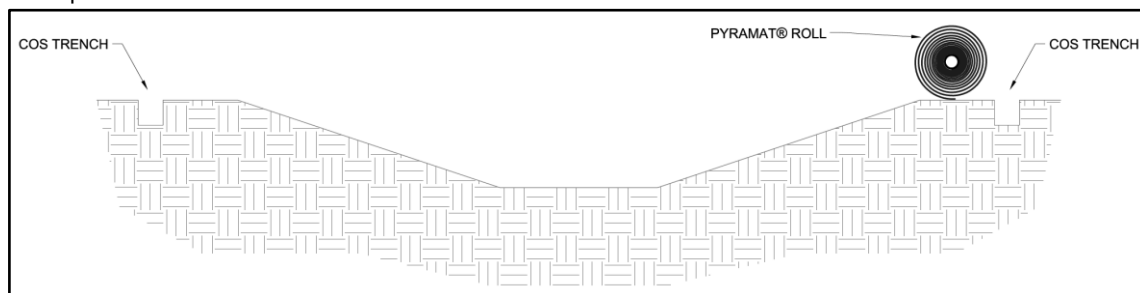
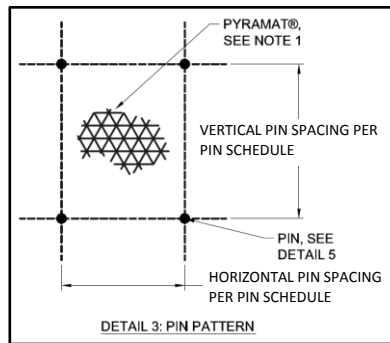
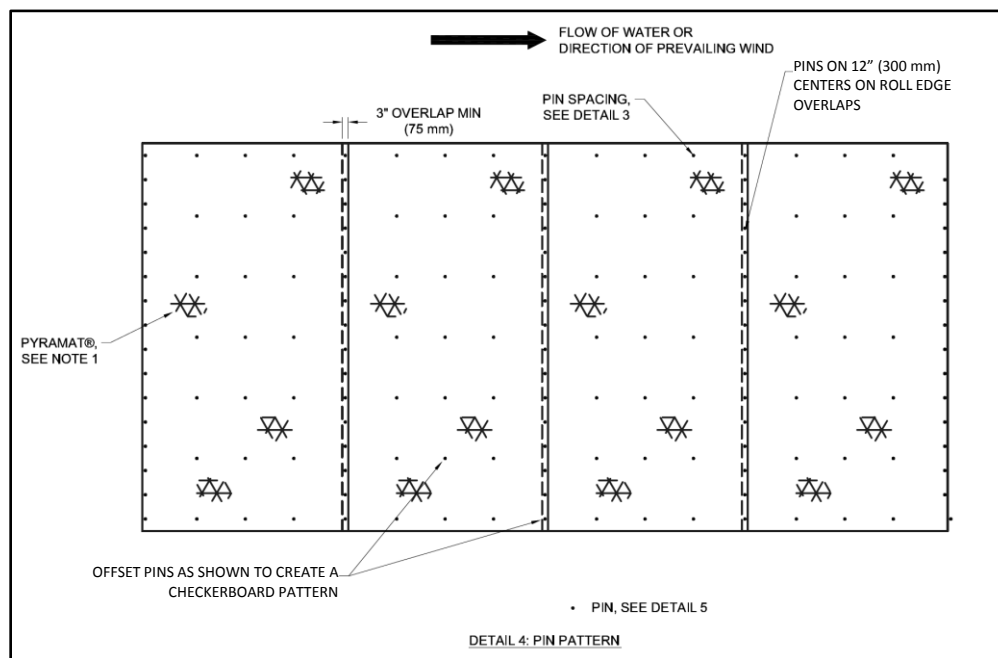

Figure 8: Top of Bank (COS) Trench Alignment
Figure 11: Example Pin Pattern
Figure 12: Example Edge Overlap Pattern
6. Place the next PYRAMAT panel by laying the PYRAMAT roll so that the roll end points towards the COS trench (Figure 8), with a 3 inch (75 mm) overlap created at adjacent panel edge locations. Ensure that adjacent panel edges maintain a minimum 3 inch (75 mm) overlap during *PYRAMAT LAYDOWN* (Figure 12).
10. Secure PYRAMAT panels in place using pins across the channel surface according to the project's engineered design. Pin placement should reflect a checkerboard pattern across the channel surface for best results (Figure 11 and Figure 12).
- Roll edges shall be overlapped a minimum of 3 in (75 mm) with pins placed on 12 in (300 mm) centers (Figure 12).
13. Continue to work down the length of the channel by repeating steps 6 through 9 overlapping each adjacent PYRAMAT panel by 3 inches (75 mm) (Figure 12). The last PYRAMAT panel should terminate on the Terminal Channel (TC) trench with pins on 12 in (300 mm) centers